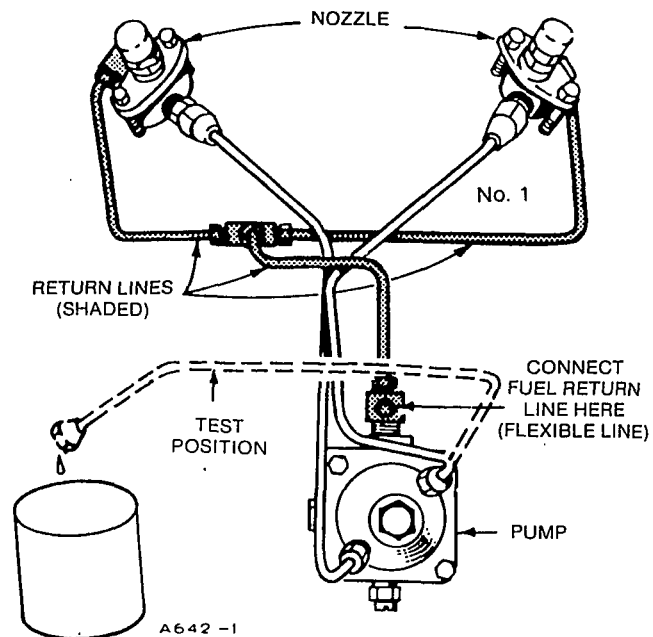
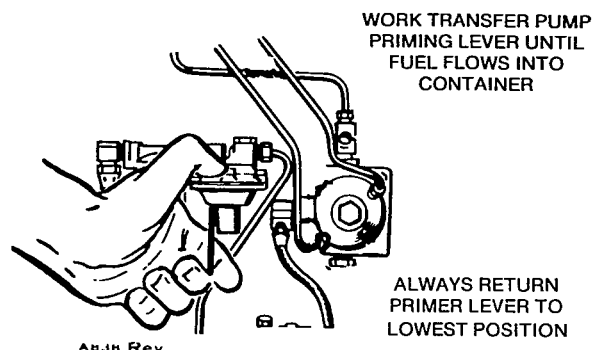

FIGURE 26. FUEL LINE TO INJECTORS
FIGURE 28. OPERATING TRANSFER PUMP MANUALLY
3. Remove No. 1 injection line. Install No. 1 injection line with top end of line in pump outlet. Place an open container under open end of No. 1 injection line (Figure 26).
6. Manually operate fuel transfer pump (Figure 28) until fuel, free of air, flows from open end of No. 1 injection line into container (Figure 26).